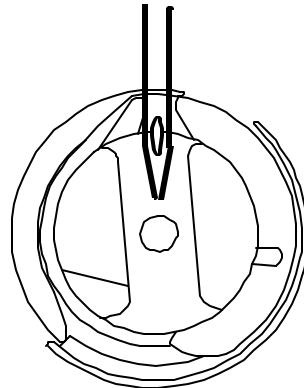

Figure 13
44. **Adjust** by moving Needle Bar Driver up or down so  $\frac{1}{2}$  of needle eyelet is viewed in hook basket. See Figure 13.